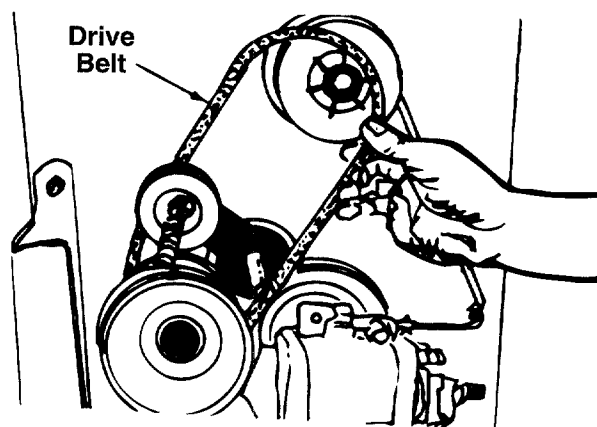

FIGURE 35.
9. Remove and replace the "V"-belt. See figure 35.